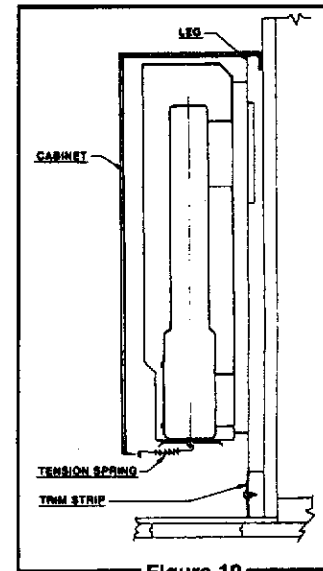

Figure 10
Set cabinet over furnace body, dropping rear top flange into slot in top of spacer plate and into slots between support legs and wall. When correctly positioned side-to-side, a dimple on the rear top flange will slide against the inside of each support leg. Attach two (2) tension springs through the bottom flange of combustion chamber and bottom of cabinet. Fasten trim strip to bottom of support legs using two (2) sheet metal (short) screws (Figure 10).